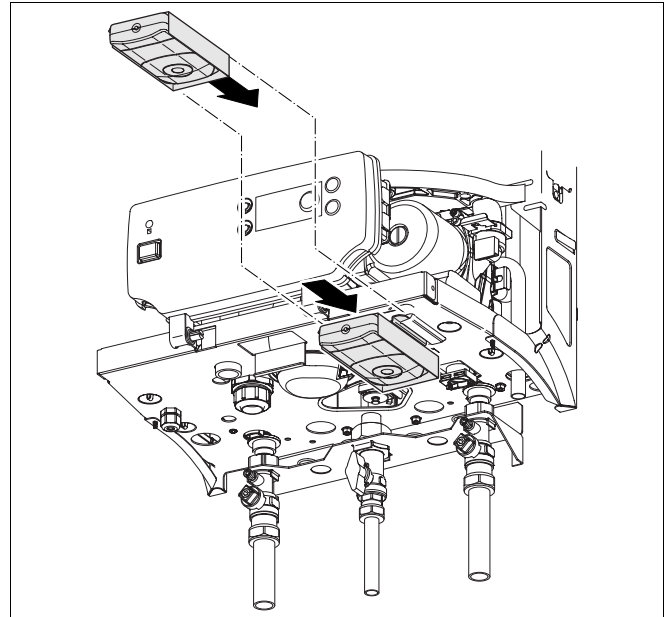

fig. 30 Place receiver
- Slide the receiver in the guide rails on the bottom part of the boiler (fig. 30).